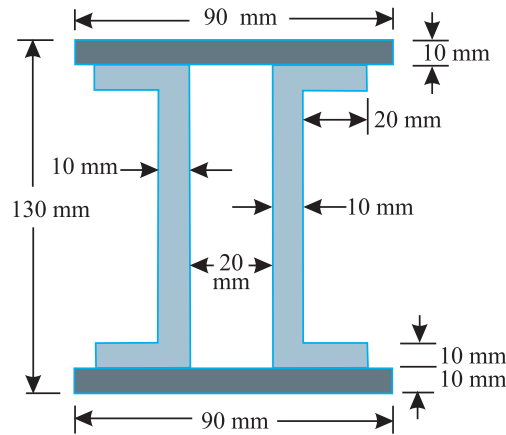

Fig. 7.22.
**Example 7.18.** A built up section is made by nesting two stable and two channel sections as shown in Fig. 7.22.